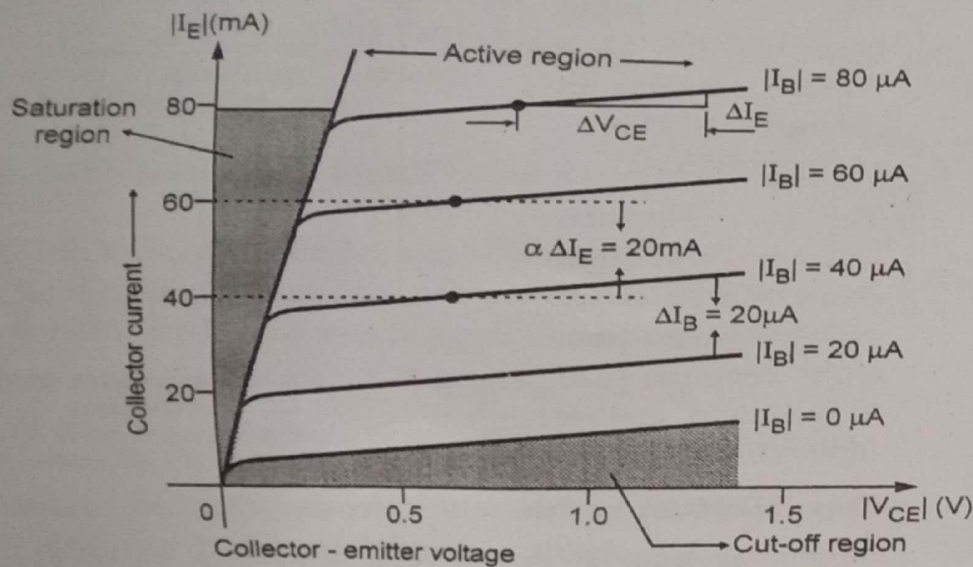

Fig. Q.36.1 Output characteristics of the transistor in CC configuration
• Fig. Q.36.1 shows the output characteristics of a typical transistor in common collector configuration.